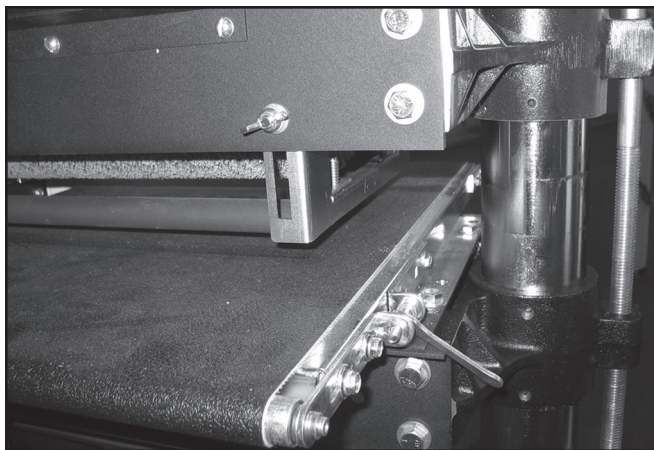

Fig. 11
2. Set tension rollers to type of stock being sanded (See Tension Roller Adjustment below and Fig. 11).
Spring loaded infeed and outfeed Tension Rollers (Fig. 11 & 23) are provided to maintain downward pressure on stock being sanded and to prevent slippage of the stock on the feed conveyor. When properly set, the Tension Rollers should engage or raise up about 1/8" to accommodate the stock being brushed.
Flat Surfaced Stock: Set the bottom of the tension rollers even with the bottom of the brush. Loosen the four Tension Roller locking knobs (Fig. 11). Raise the table to the "0" mark on the Depth Gauge. At this position, the brush and Tension Rollers are resting on the table surface. Lock all four Tension Roller knobs. For example, to brush a 3/4" thick flat board, lower the table to 5/8" on the Depth Gauge. This allows 1/8" for Tension Roller engagement and 1/8" brush penetration.
all four tension roller locking bolts (Fig. 11). Adjust the conveyor table 1/4" into the bristle tips (measure with a ruler from "0" mark on depth gauge.). At this position, the tension rollers are resting on the table surface and are positioned 1/4" above the bottom of the brush. Lock all four Tension Roller locking bolts. To brush the piece, lower the table to the 3/8" position on the Depth Gauge. This allows for 1/8" of tension roller engagement and 3/8" of brush penetration.
The depth gauge (see Fig. 11) measures the distance between the conveyor table and the bottom of the sanding brush. The sanding brush must be parallel to the conveyor bed surface. To calibrate the depth gauge, loosen the locking knob of the lower depth gauge casting so it rests on top of the table support casting. Raise the conveyor table until it touches the sanding brush. Then loosen the locking knob of the upper depth gauge casting and position the “0” mark of the scale even with the top of the lower depth gauge casting. Lock the upper depth gauge casting in position.